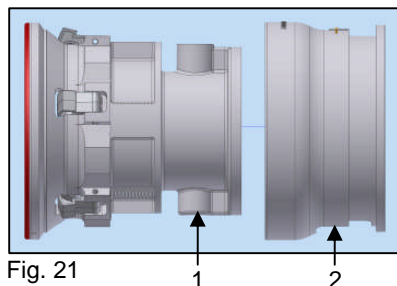

Fig. 21
22. The Coupler Sleeve (2) is now free to be slide off the back of the Coupler Body (1). (Fig. 21)
27. Slide Coupler Sleeve (2) over Coupler Body (1) (Fig. 21).
29. Reassemble Coupler reversing steps 17 to 21 using existing parts except for New Cotter Pins (33) and New Hitch Pins (20) to retain Retractor Guide (28). Pull Hitch Pins all the way through (Fig. 21).